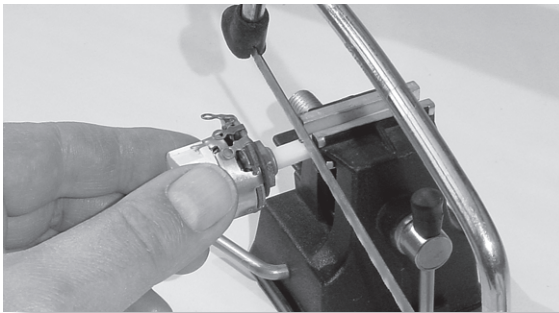

FIGURE 6.14 Cutting the stem of a potentiometer.
- **CUT** the stem on this mark. To do this, hold the end of the stem in a vice, with the stem horizontal. Hold the potentiometer body in one hand, while cutting the stem with a junior hacksaw in the other hand, as shown in Figure 6.14